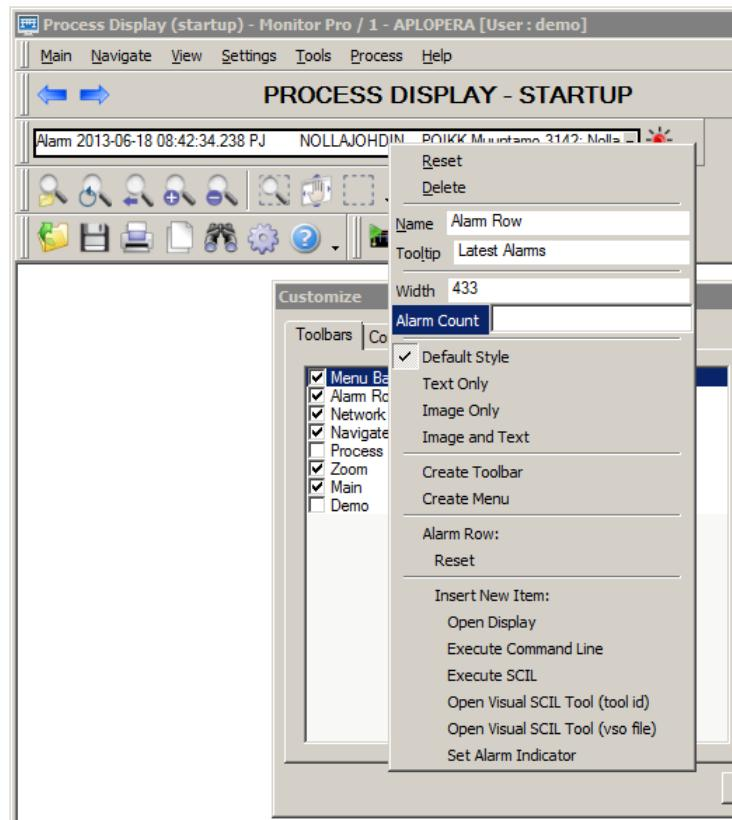

Figure 228: Changing visible alarm count
3. Type in the desired alarm count, see Figure 228.